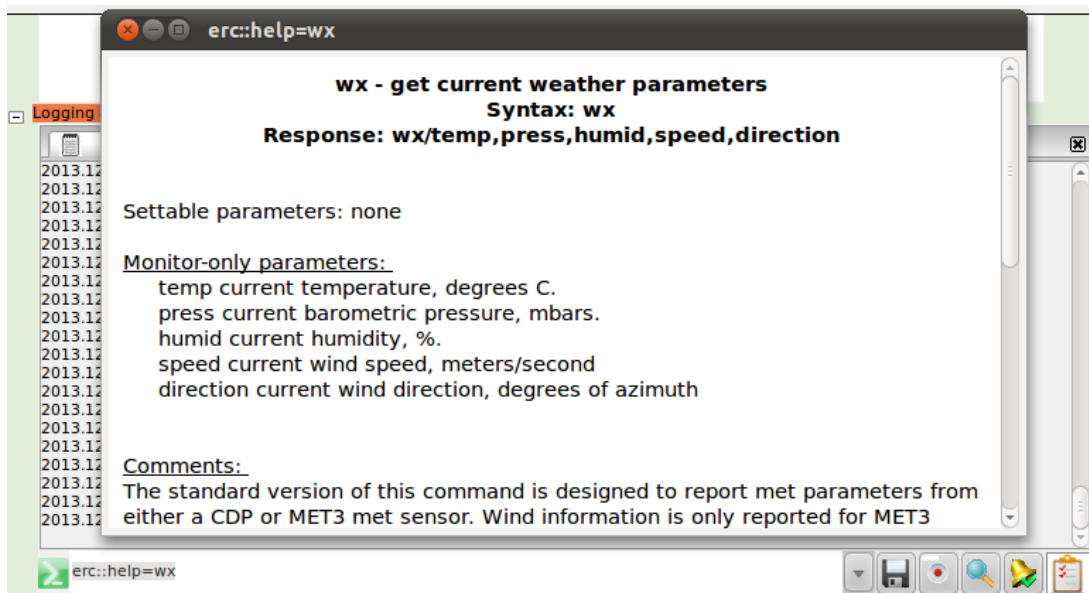

Figure 1.33: The help command.
- "*erc::help=<command>*": It opens another display, which shows the known help pages of the NASA Field System in a HTML version. Additionally all defined HTML help pages in the e-RemoteCtrl server can be requested (see fig. 1.33).